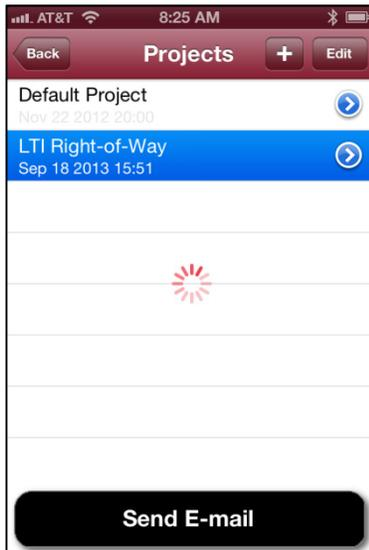

Figure 23
1. Tap "Projects" from the Measure main screen. A list of existing projects will be displayed (Figure 23).